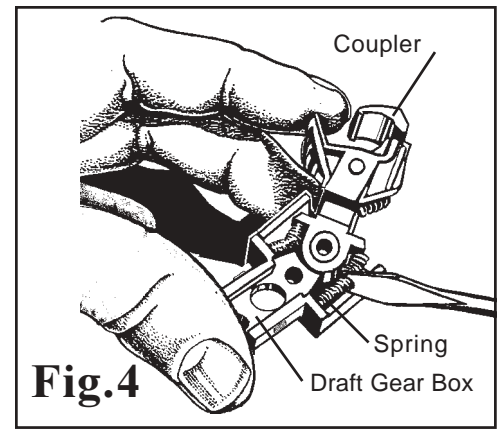

Fig.4
6. Swing Coupler to either side and install the first Centering Spring with a small screwdriver or tweezers as shown in Fig. 4. Now swing the Coupler to compress the installed spring and hold in place with your thumb. This will give you room to fit the second Centering Spring in place. After installing both springs, allow the Coupler to center itself. Then, assured the springs are properly seated, carefully place Draft Gear Box Lid on Gear box and secure with a #2 x 3/8" screw to hold in place.